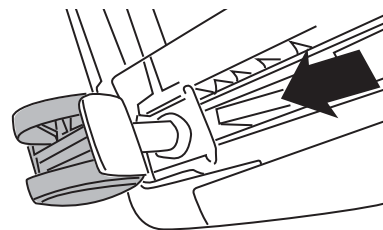

fig. 1
3. Mount the wheels according to the arrow direction (Fig 1).